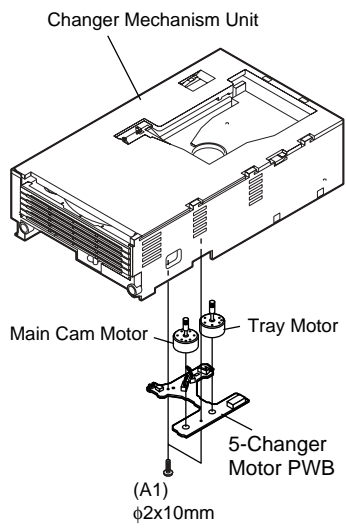

Figure 1
3.2. How to Remove the tray motor/main cam motor/5-Changer Motor PWB. (See Fig. 1)